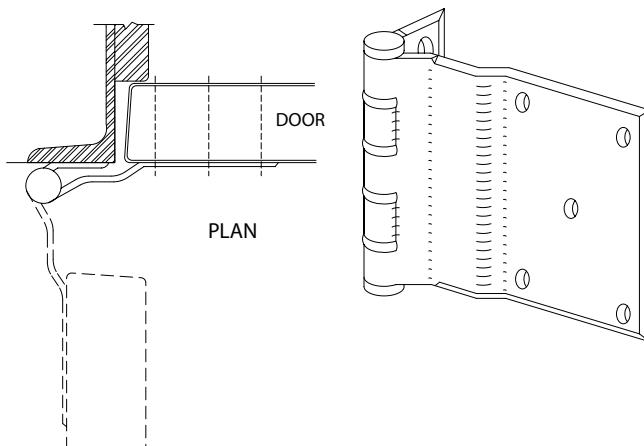

FIGURE 7d
4. The Full Surface Hospital Hinge, Figure 7d, has one leaf surface-mounted on the door face and one leaf surface-mounted on the frame face.